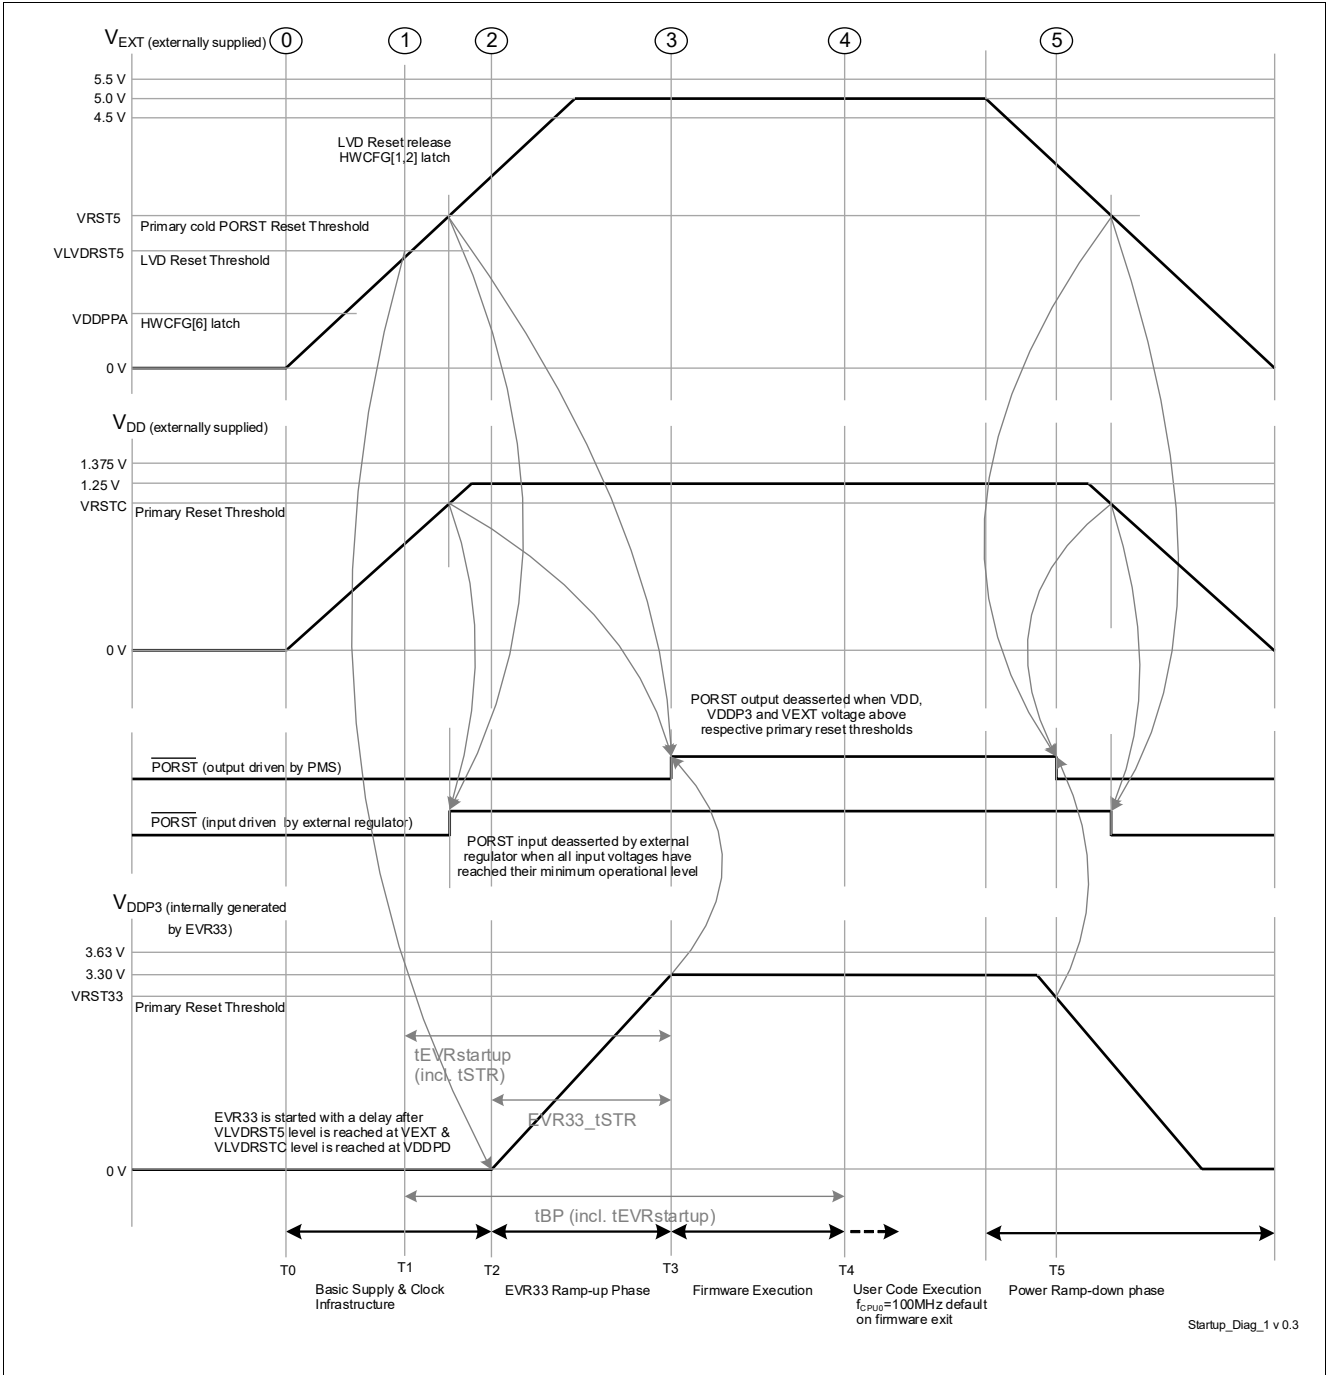

Figure 3-5 External Supply mode (d) -  $V_{EXT}$  and  $V_{DD}$  externally supplied
- The power sequence as shown in Figure 3-5 is enumerated below